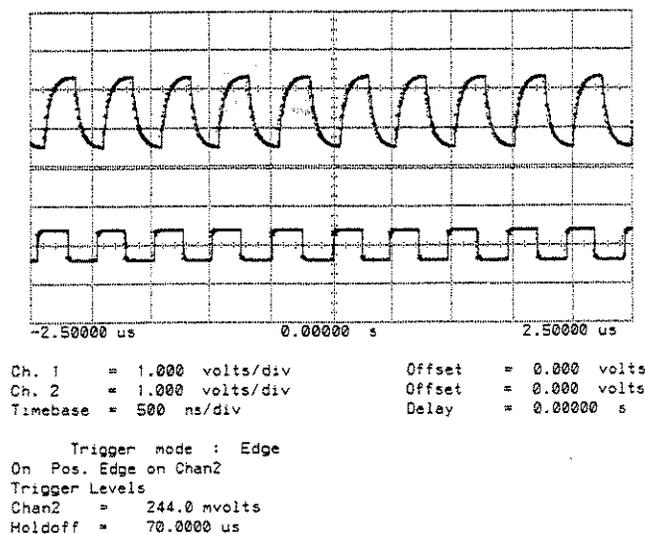

Figure 8-17 Pulse Shape Network Adjustment (10 Cycles Clock Output)
- Slowly increase the Power Supply output voltage from 0V. The waveform on the oscilloscope display will be displaced as the voltage is increased. Check that the Channel A waveform can be displaced with respect to Channel B by at least 5.05 cycles as shown in Figure 8-17. (adjust the Pulse Shape Network to obtain the desired waveshape on Channel A).
15. Adjust the Oscilloscope timebase to calibrate 10 cycles of the Channel B waveform on the display. Adjust the Pulse Shape Network for a waveform as previously shown in Figure 8-17.